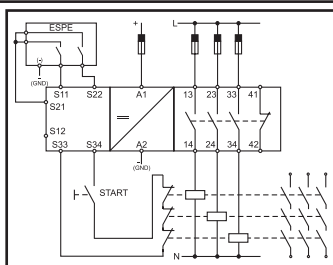

Fig. 8: ESPE: 2 uscite a relè a 2 fili /
- ESPE with two relay two-wires outputs: connect one wire of each output channel to the S21 terminal and the other outputs to the S11 and S22 terminal, leaving S12 not connected (fig. 8, max. Safety cat. 4, PL: e).